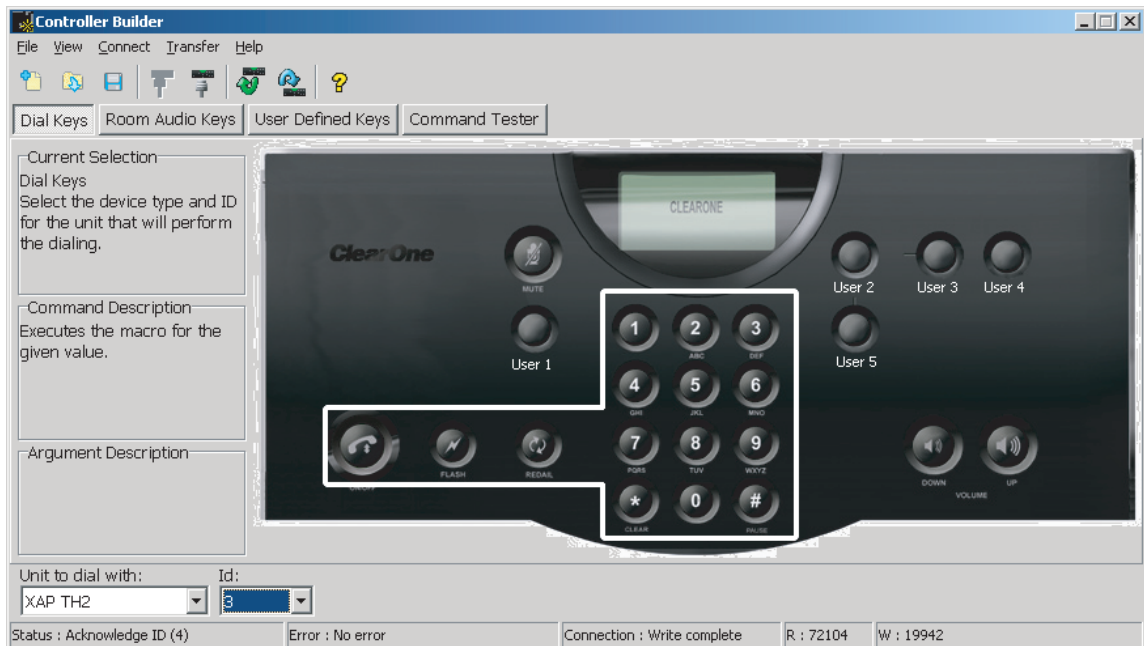

FIGURE 2.6 Customizing dial keys
1. Click the **Dial Keys** button. The dial keys are outlined in the Controller Builder window. The **Current Selection** description field instructs you to select the device type and device ID (DID) for the unit that will perform the dialing (see Figure 2.6).
2. In the **Command Editor** at the bottom of the Controller Builder window, select the device type that will be performing the dialing and the DID of that device from the drop-down menus. The available devices are all telco devices; **Current** indicates that the device that the controller is currently connected to is the one that will be controlled and **Global** means that *all* telco devices will be controlled--which, in this case, is probably not a good idea...you would not want to have all your telco devices dialing the same number at the same time! The **Command Description** and **Argument Description** fields describe the command you select (in this case, a macro that tells the controller which telco device(s) it will be controlling for dialing functions) and the argument (if any) for that command (see Figure 2.6).